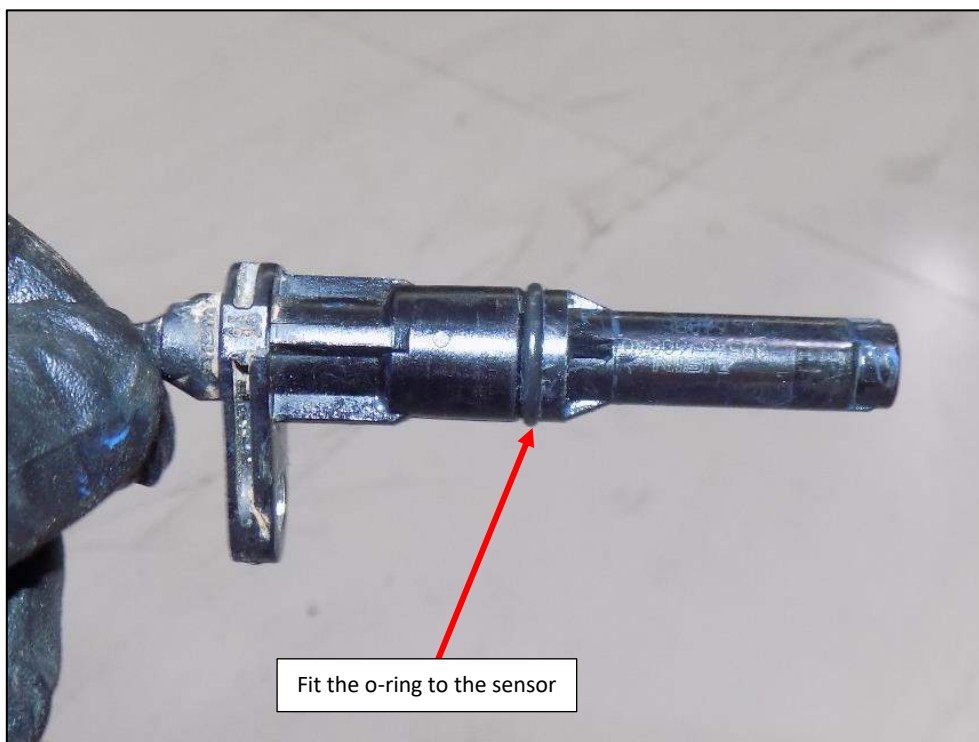

Figure 8
19. **[ABS equipped vehicles only].** Apply a light smear of silicone grease to the small O-ring provided and attach it to the ABS sensor (Figure 8).